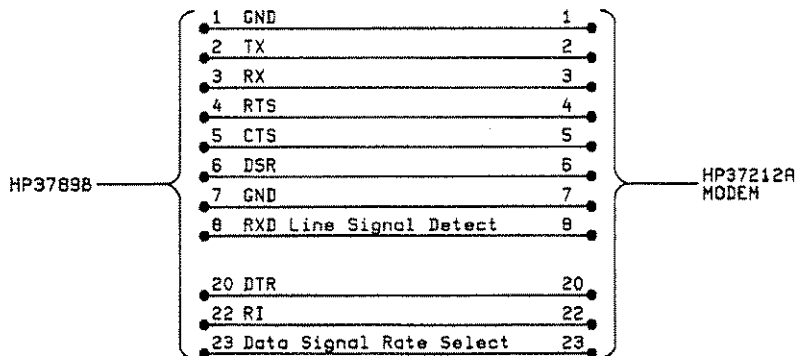

Figure G-5
5. The interconnecting cable between modem and HP 3784A is a direct pin for pin matching cable connection as shown below in Figure G-5.